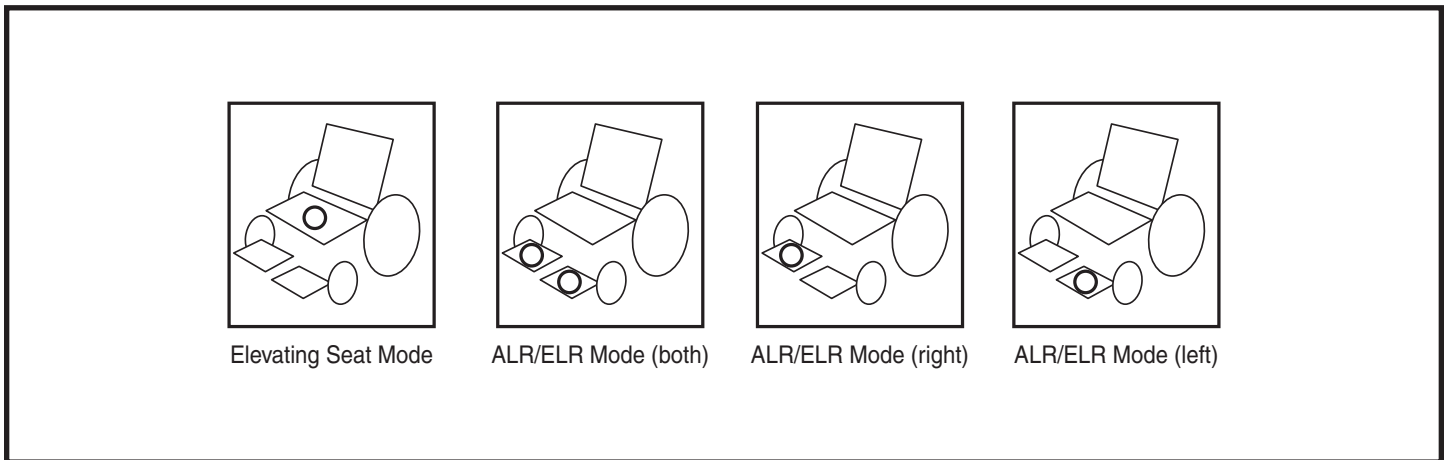
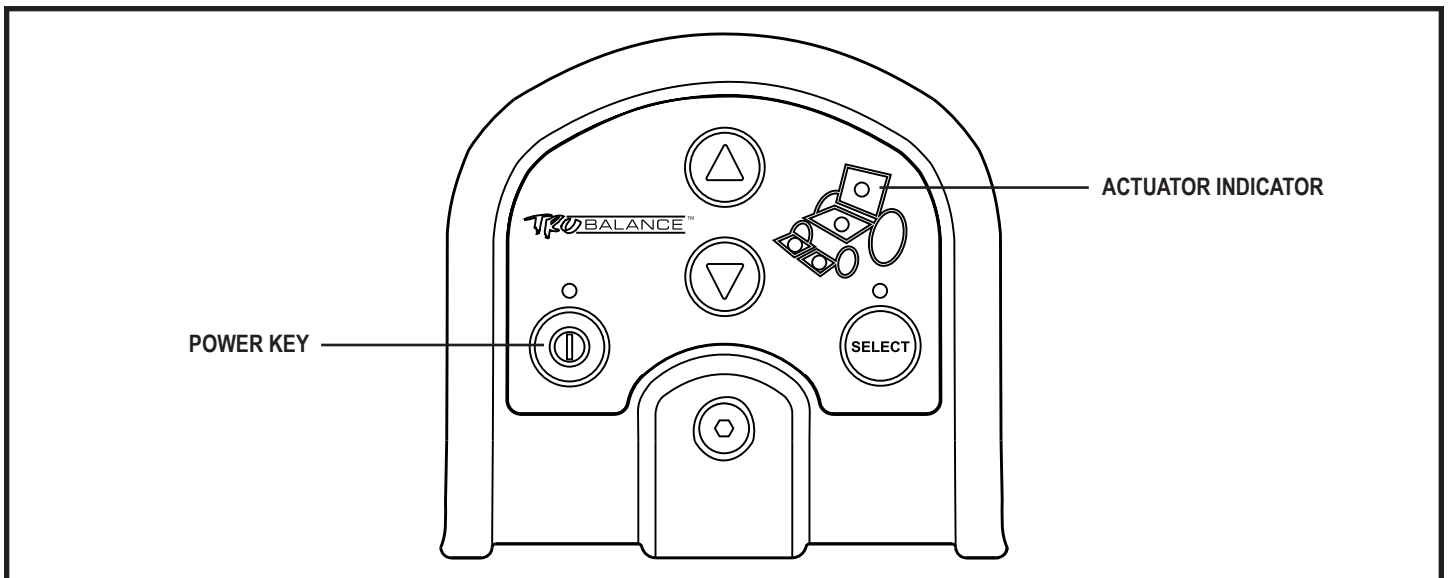

Figure 14. Actuator Modes
Figure 15. Attendant Control Module Functions
3. Push the joystick to the right to cycle through the available actuators until the desired light is illuminated on the actuator indicator. **See figure 14.**
Your Synergy Seat may be equipped with an Attendant Control Module (**see figure 15**). The actuators can be adjusted either by the user through the controller or the toggle, or by an attendant through the Attendant Control Module. Any action made through the Attendant Control Module will override toggle actions made by the user. To adjust any of the actuators, press “Select” to cycle until the actuator to be adjusted is illuminated on the actuator indicator (**see figure 14**), then press the up arrow to increase the lift or tilt or the down arrow to decrease the lift or tilt.